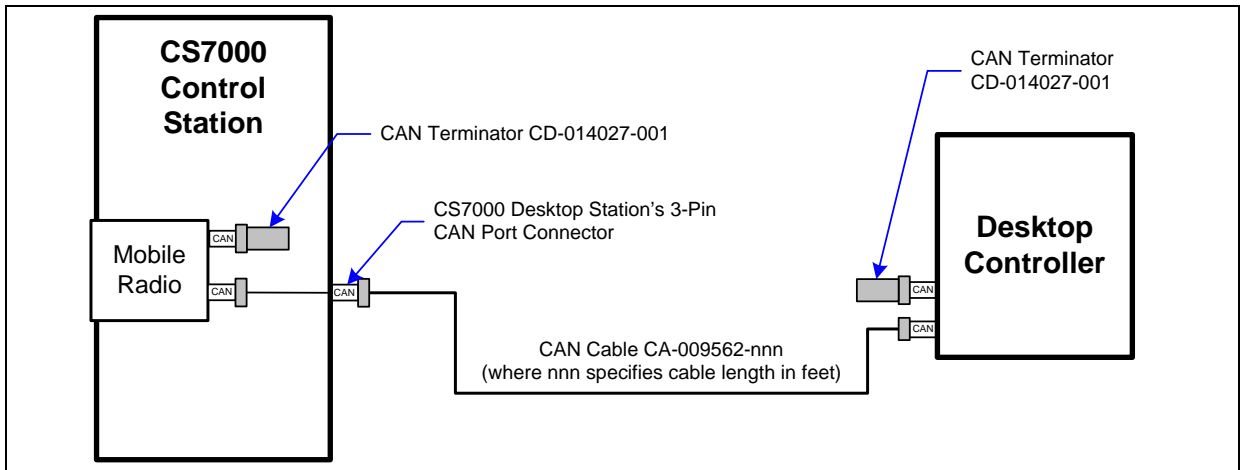
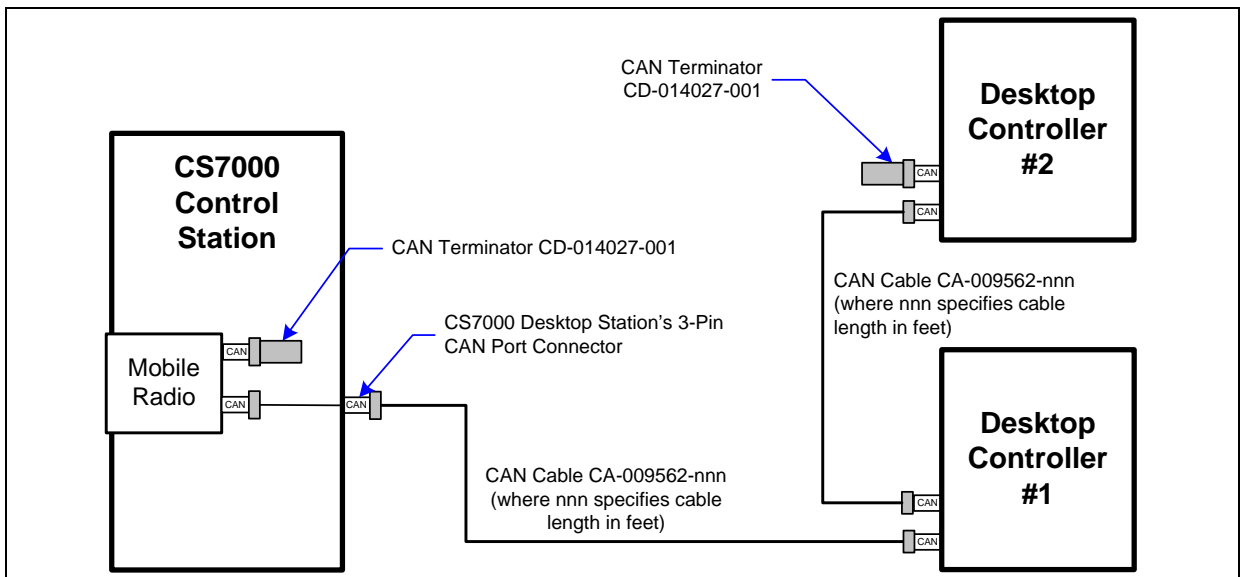
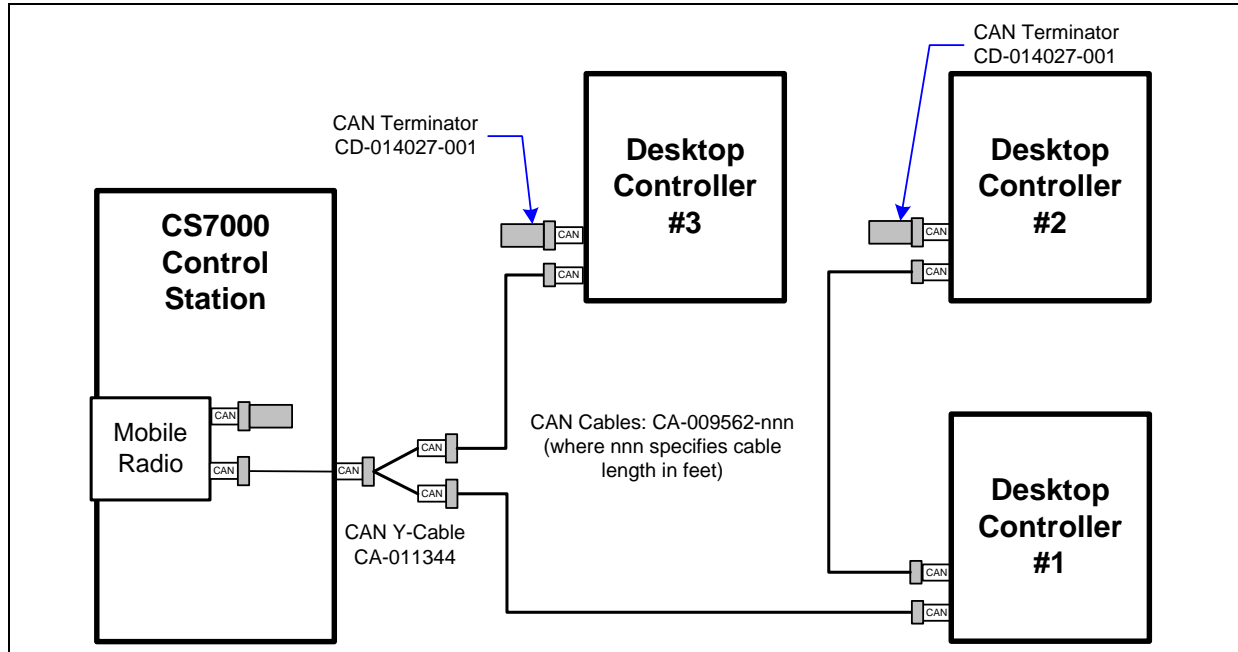

Figure 5-14: Connecting a CAN-Based Desktop Controller
Figure 5-15: Connecting Two or More CAN-Based Desktop Controllers
Figure 5-16: Connecting a CAN Y-Cable at the Control Station
Typically, CAN-based Desktop Controllers and other devices have two (2) CAN ports to support "daisy-chaining" of multiple CAN-based Desktop Controllers, or other CAN devices. The M5300 or M7300 mobile radio installed into the CS7000 has two can ports on the rear of the mobile radio. Because CAN devices do not have internal terminators, the CAN link must be terminated at both ends via a CAN terminator. A terminator should always be installed on the second CAN port on the rear of the mobile radio (refer to Figure 5-14 and Figure 5-15) unless an Y-cable is used on the rear of the CS7000 Control Station (refer to Figure 5-16). When using a Y-cable at the Control Station, it may be necessary to remove the CAN terminator on the rear of the mobile radio when CAN cable lengths approach 250 foot. In all cases, the farthest CAN device on each side of the Y-cable must be terminated.
Figure 5-14 through Figure 5-16 assumes the total CAN link connections are less than 250 feet in length. If the total connection length must exceed 250 feet, use the optional fiber-optic-based CAN Bus Extender to extend the CAN link beyond this normal 250-foot limit. Refer to Section 5.9.3 for additional information.
A CAN link must be terminated properly at both ends of a CAN link. The CS7000 has an internal CAN terminator on the second radio CAN port. A terminator must be used on the CAN-based Desktop Controller farthest from the Control Station as shown in Figure 5-14 and Figure 5-15.
A CAN link must be terminated properly at both ends. The CS7000 has an internal CAN terminator on the second radio CAN port which must be removed when using a CAN Y-cable at the Control Station. A terminator must be used on the CAN-based Desktop Controller farthest from the Control Station on each leg of the Y-cable (refer to Figure 5-16).